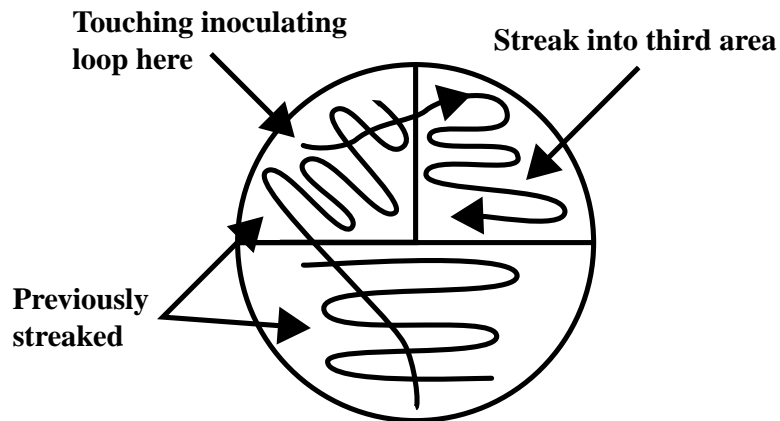

Figure 5.6: Touch the loop on the previously streaked area. Then move the loop across the agar onto the third area as shown.
8. Repeat STEP 7 as shown in Figure 5.6.